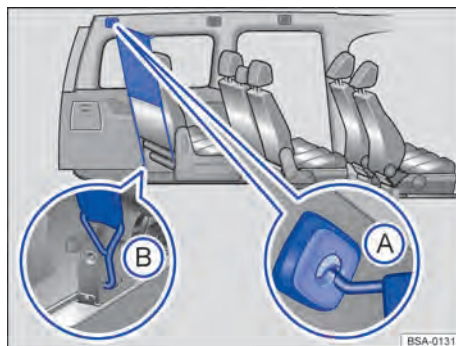

Fig. 153 Net partition installed behind the third row of seats.
1. Hook the net partition into the *rear left* holder in the roof → Fig. 153 (A). Ensure that the transverse rod is pulled up over the upper position so that it latches securely in the slots.
3. Hook the net partition into the seat anchor points → Fig. 153 (B).